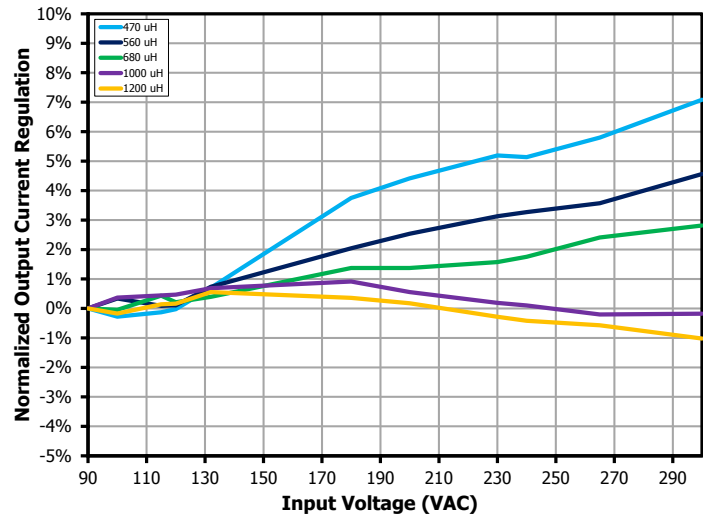

Figure 12. Effect of Output Inductance on CC Regulation.
- Line Regulation – The higher the inductance, the more negative the line regulation becomes. This may be important when optimizing for best regulation (See Figure 12).